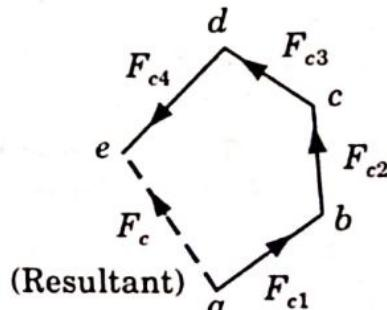

Fig. 4.2.2. Balancing of several masses rotating in same plane.
3. Draw the vector diagram using $mr\omega^2$ (or using only mr as ω is constant) of all the forces as shown in Fig. 4.2.2. Here ab represents $m_1 r_1$ or $m_1 r_1 \omega^2$ in magnitude and direction to some suitable scale. Similarly draw bc , cd and de to represent centrifugal forces of other masses m_2 , m_3 and m_4 .
4. From polygon law of forces the closing side of polygon (i.e., a_e) represents the resultant force in magnitude and direction as shown in Fig. 4.2.2.